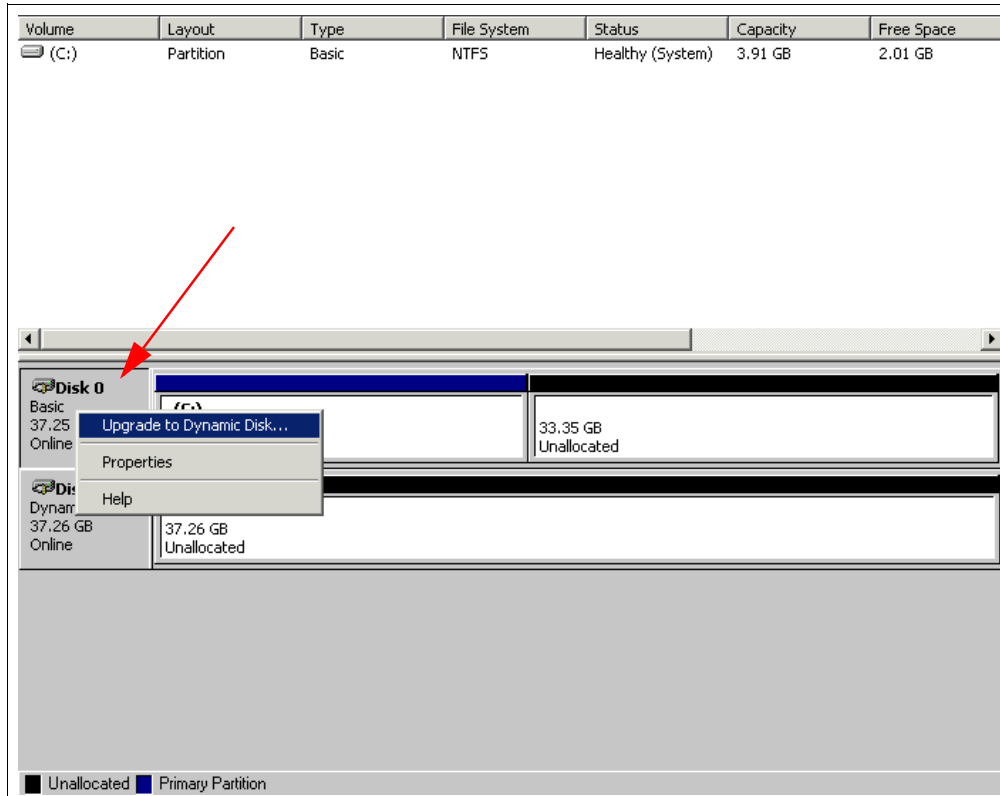

Figure 3-3 Upgrading to Dynamic Disk
3. Select the disk you want to upgrade and click **OK**. You will see a window similar to Figure 3-3.